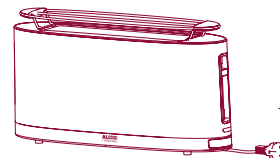

Fig. 10
- 1 Place the bunwarmer on top of the Toaster (fig. 10).